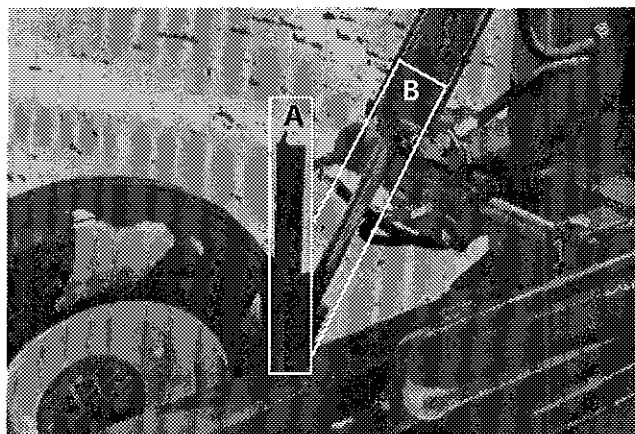

Figure 2
- 1) Be sure to engage the two safety locks (A Figure 2) provided for the rear wheels hydraulic cylinders (B Figure 2).